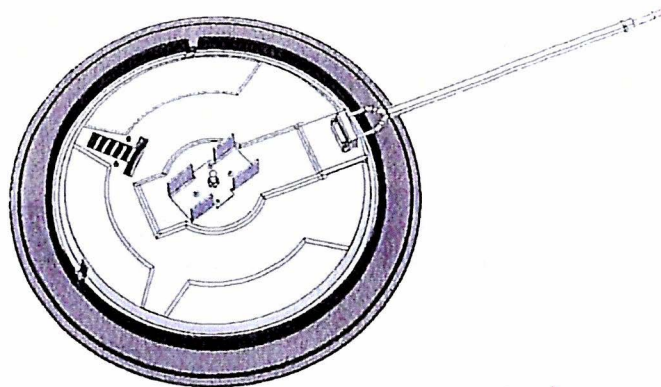

Fig 6
11. The replacement hotplate element will have a "flying lead" and location bracket. Fig 6